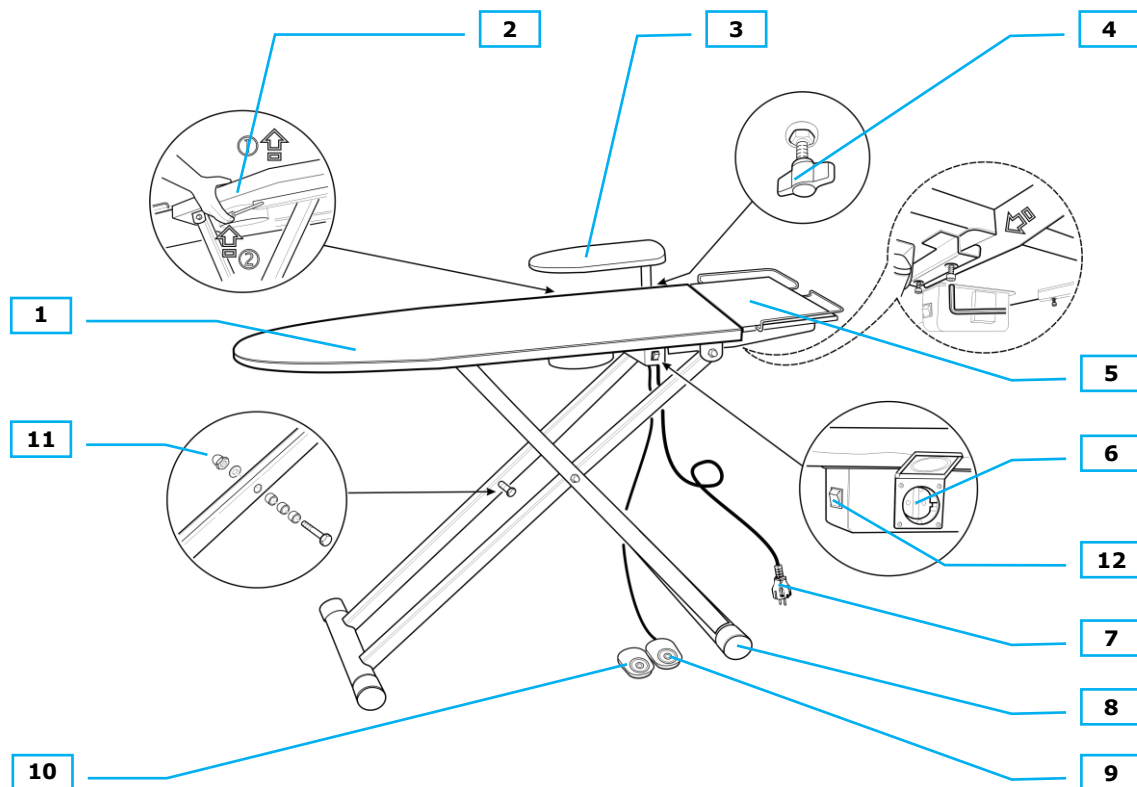

Fig. 1
2. Remove EOLO/ZEFFIRO from the box (fig. 1).
Run the iron on garments, pressing the micro-switch of the iron for steam and the vacuum pedal at the same time (fig. 1). We suggest you to press the pedal a bit longer than the micro-switch in order to dry the garment.
This operation must be carried out with EOLO/ZEFFIRO switched off and cold (fig. 1).